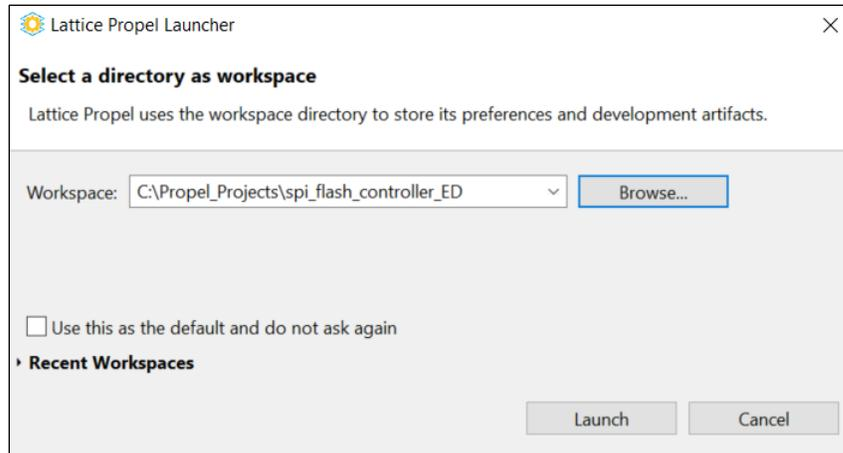

Figure 6.3. Lattice Propel Launcher
1. Launch Propel SDK. The **Lattice Propel Launcher** opens as shown in Figure 6.3. Browse to a directory for the **Workspace** field and click **Launch**.